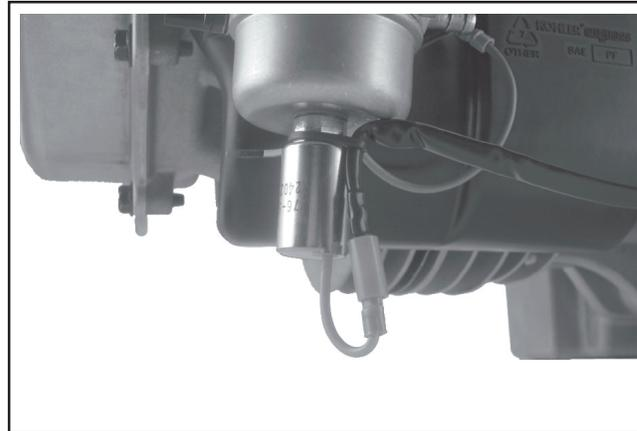

**Figure 10-55. Installing Carburetor Assembly with Linkages.**
6. Attach the choke and throttle linkages to the carburetor and install the carburetor assembly. See Figure 10-55. If the governor lever was not disconnected, slide it onto the governor shaft with the lever up.